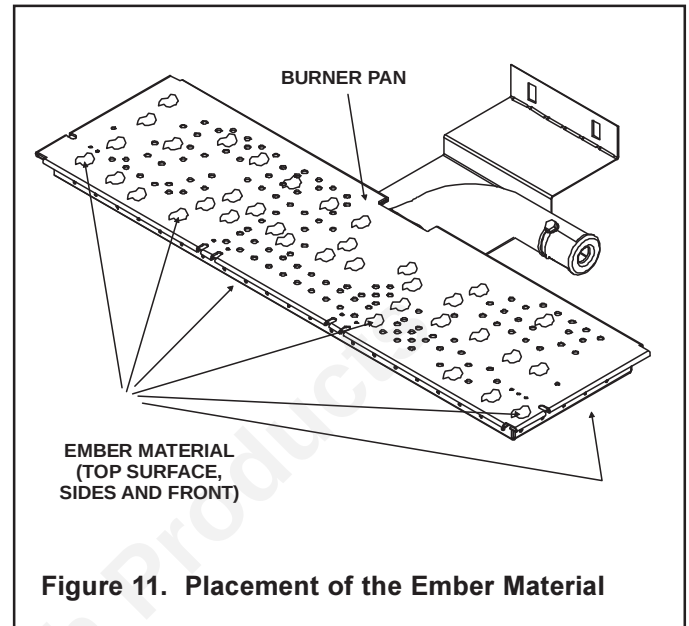

Figure 11. Placement of the Ember Material
- Place a dime size piece of glowing ember material near port holes in burner top, sides and front (see Figure 11).